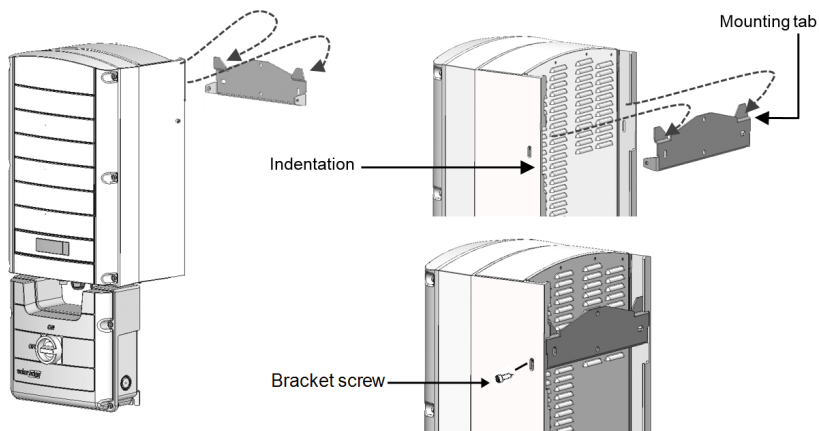

Figure 15: Hanging the inverter on the bracket
- Ensure that the flat edge of the bracket is at the bottom, as in *Figure 15*.
4. Hang the inverter on the bracket (see *Figure 15*): Lift the inverter from the sides, or hold it at the top and bottom of the inverter to lift the unit into place. Do not lift holding the Safety Switch as it may be damaged.
7. Insert the two supplied screws through the outer heat sink fin on both sides of the inverter and into the bracket (see *Figure 15*). Tighten the screws with a torque of $4.0 \text{ N}\cdot\text{m}$ / $2.9 \text{ lb}\cdot\text{ft}$.